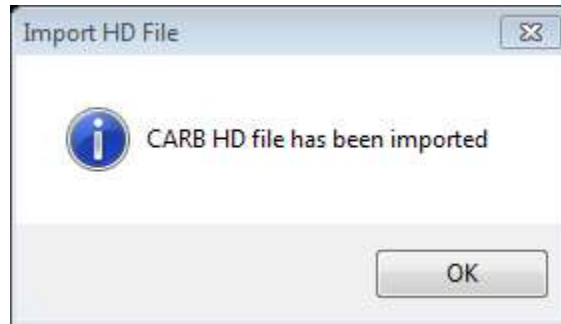

Figure 5-14 Import Completed
- Once the import has been completed Figure 5-14 will be displayed